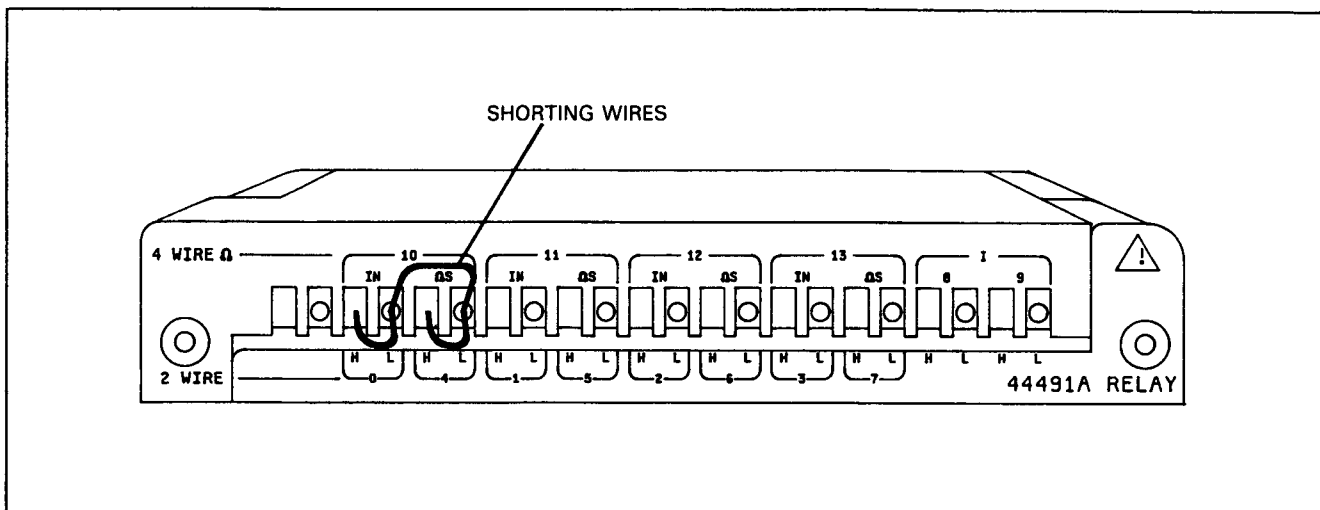

Figure 5-4. 44491A Wiring Block Connections
- d. Install copper shorting wires from INput HI to INput LO, from INput HI to  $\Omega$  Sense HI, and from INput LO to  $\Omega$  Sense LO on 4-Wire  $\Omega$  input channel 10. Securely tighten the appropriate retaining screws. (Refer to Figure 5-4 for wire connections).